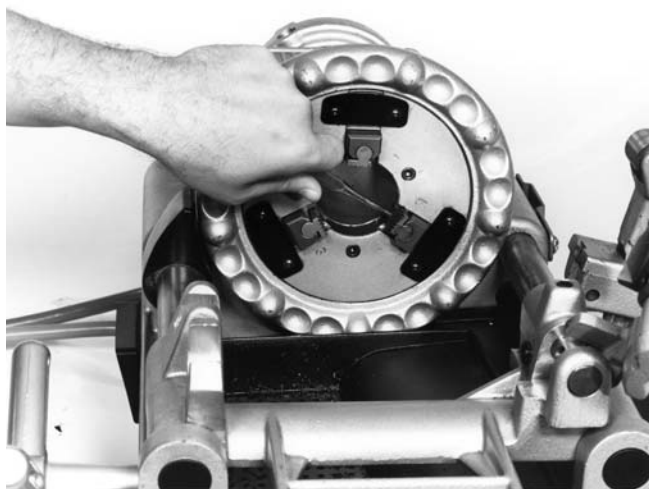

Figure 13 – Replacing Jaw Inserts
1. **To remove insert** — place punch into spring détente slot of jaw and push down. (Figure 13)